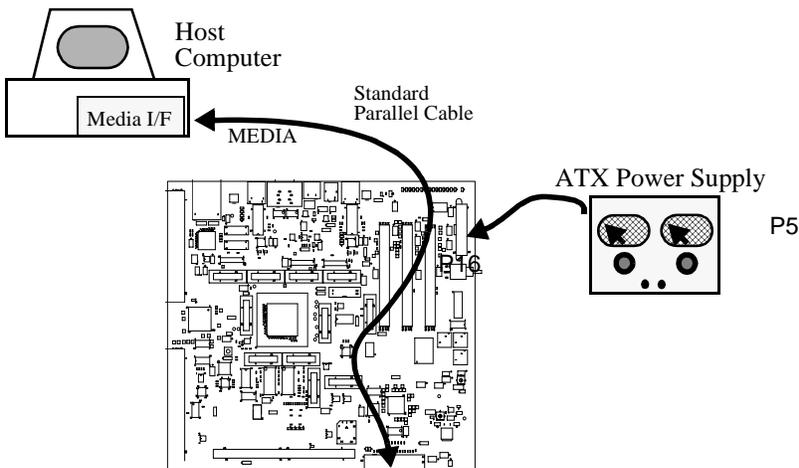

Figure 3-2. Host Controlled Operation Scheme—Parallel Port
- The host is connected to the board directly from the host’s parallel port (see Figure 3-2).